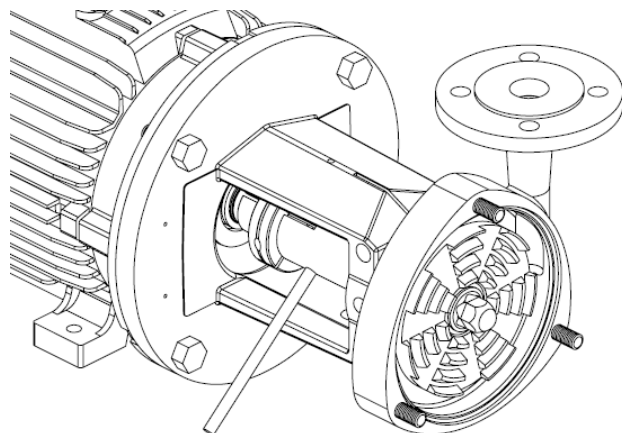

Figure 22
5. Now that the impeller clearance is set the clearance shim has to be removed and pump reassembled. Insert a 3/8" bar into the hole of the stub shaft and loosen the impeller nut. See figure 22.